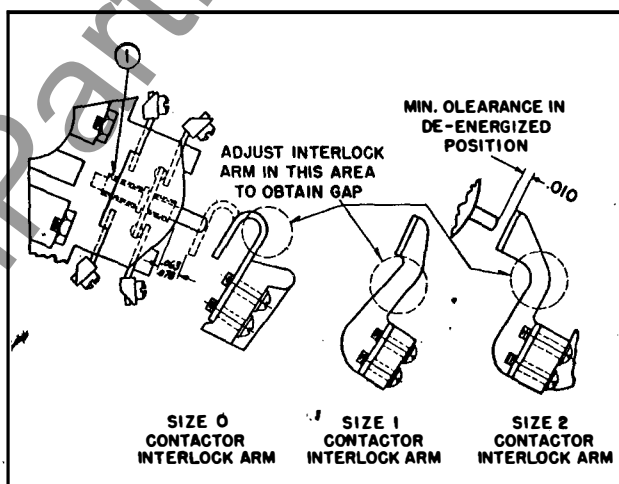

FIG. 3 Operating Arm Adjustment
2. Place interlock assembly on contactor base (as shown in Fig. 1) making sure that spring (1) in Fig. 3 does not foul movement of plunger.
4. Mount interlock arm (as shown in Fig. 3) and secure in place.
**TYPES L53, L54, AND L55 INTERLOCKS** are designed for use on the Design N Size 0, 1, and 2 contactors and starters respectively. Each complete interlock consists of two basic parts; (1) the *universal* interlock unit without operating arm and (2) the operating arm which is *different* with each contactor size (See Fig. 3).